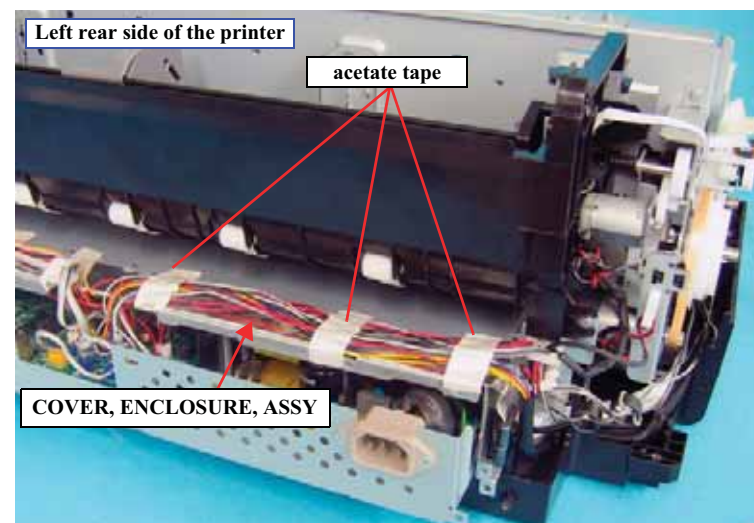

Figure 4-119. Releasing the HARNESS
5. Peel off the acetate tape on the COVER, ENCLOSURE, ASSY, and release the cables of the MOTOR ASSY., PRESSURIZING and PRESSURE SENSOR/PRESSURE PUMP HOME SENSOR. See Figure 4-119.